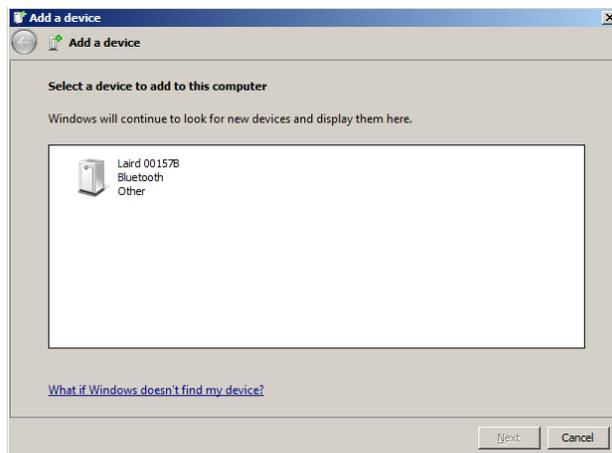

Figure 15: Add a device
2. Click **Add a device**. The DVK-BT730 should now appear, in this case as Laird 00157B (Figure 15). If you cannot identify the correct device, refer to the AT14 command from the module setup (Figure 3).